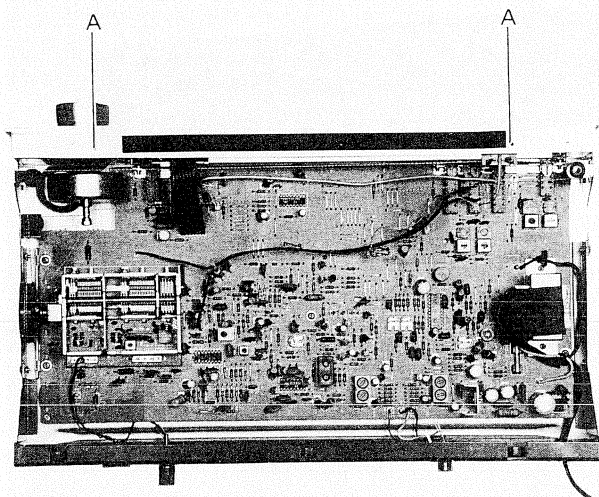

Figure 1
Remove four screws (A) from top and bottom as shown in Figure 1 and 2, and the front panel with push buttons can be removed.